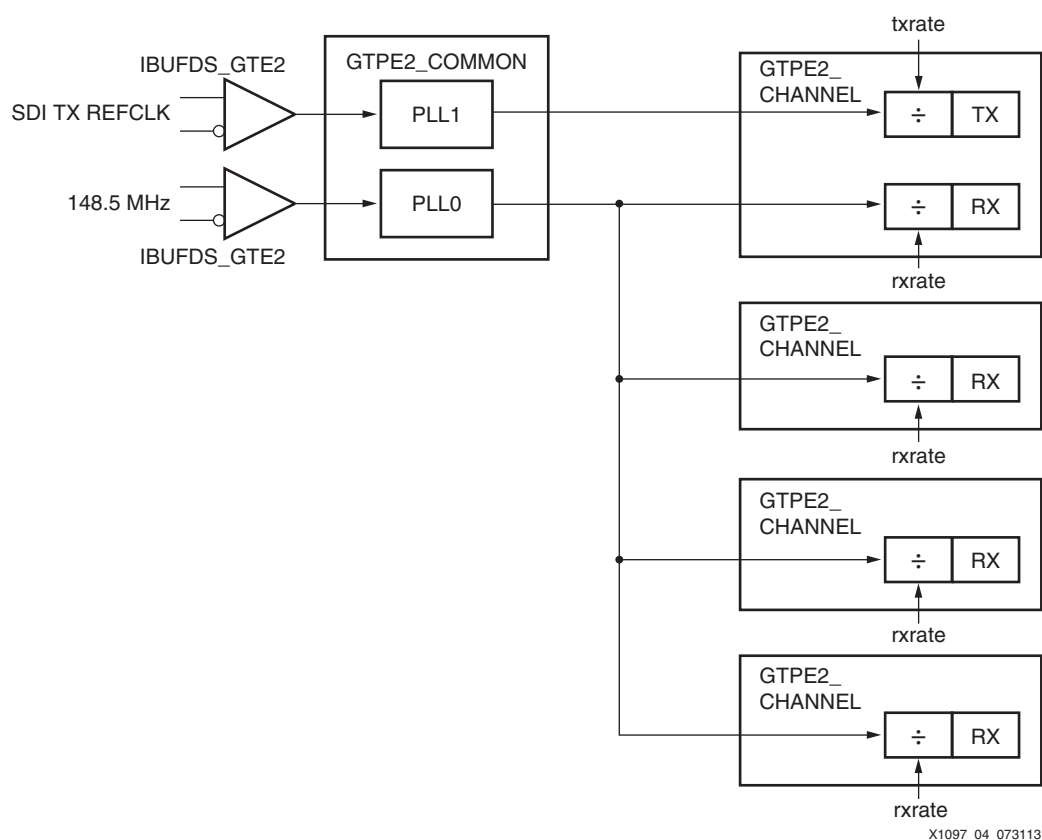

Figure 4: Four RX and One TX in a GTP Quad
- Four receivers using the serial clock from one PLL and a single transmitter using the serial clock from the second PLL (Figure 4)